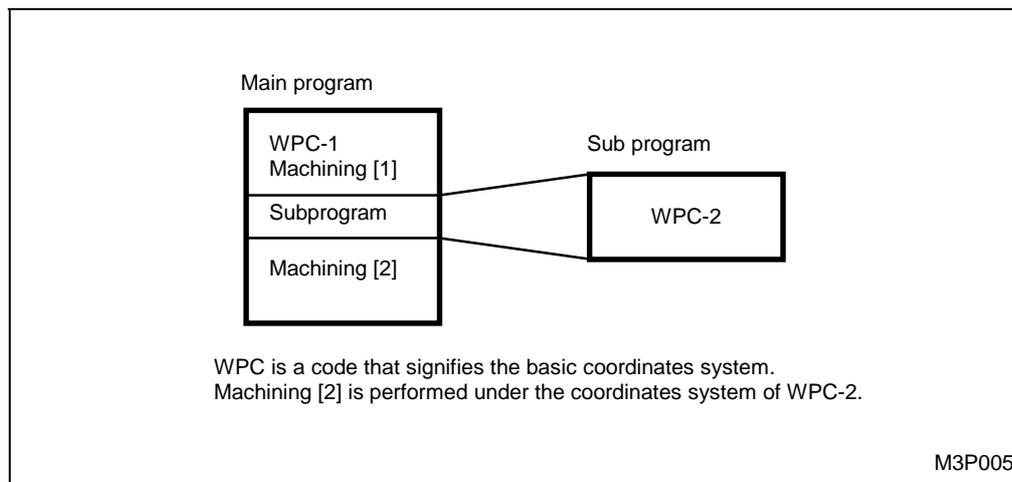

Fig. 2-5 Basic coordinates system after execution of subprogram
- B. The system of auxiliary coordinates is voided when a new system of basic coordinates is introduced. In this case, the state without a system of auxiliary coordinates is assumed. (When the system of basic coordinates was specified in the sub-program as shown in Figure 2-5, the return to the main program has the effect of voiding the system of auxiliary coordinates of the main program.)